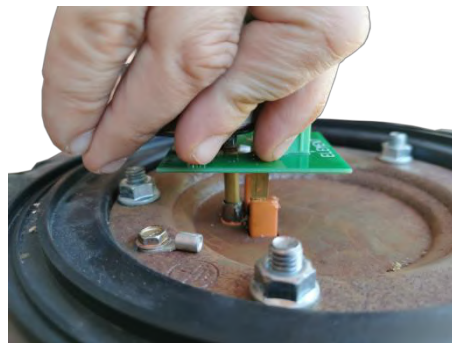

Figure 4.8 Thermostat & element adapter plugged into element
- e. Plug the thermostat + element adapter into the element as per Figure 4.8, ensuring a snug fit.